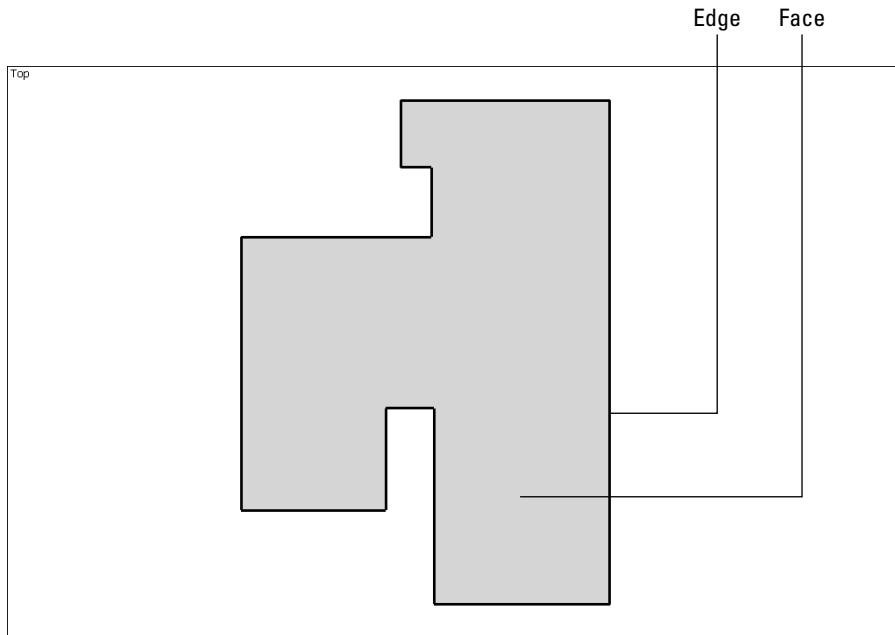

Figure 4-12:
- 4. I keep going all the way around the house, until I get back to where I started (see Figure 4-12).**